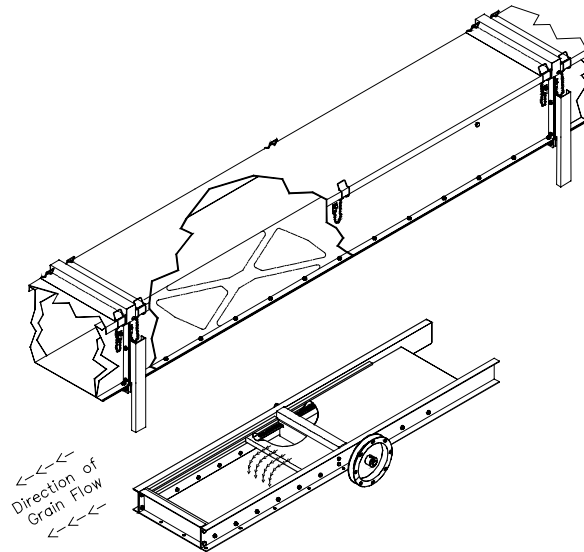

Figure 2-5, Discharge Gate Installation
Two styles of gates, cross-cut and inline, can be ordered with an en masse conveyor or retrofitted at a later date. The installation procedure is similar in either case. Refer to **Figure 2-5**.
- B. Inline gates should be installed with the "wings" facing the tail section, where possible, as shown in **Figure 2-5**.